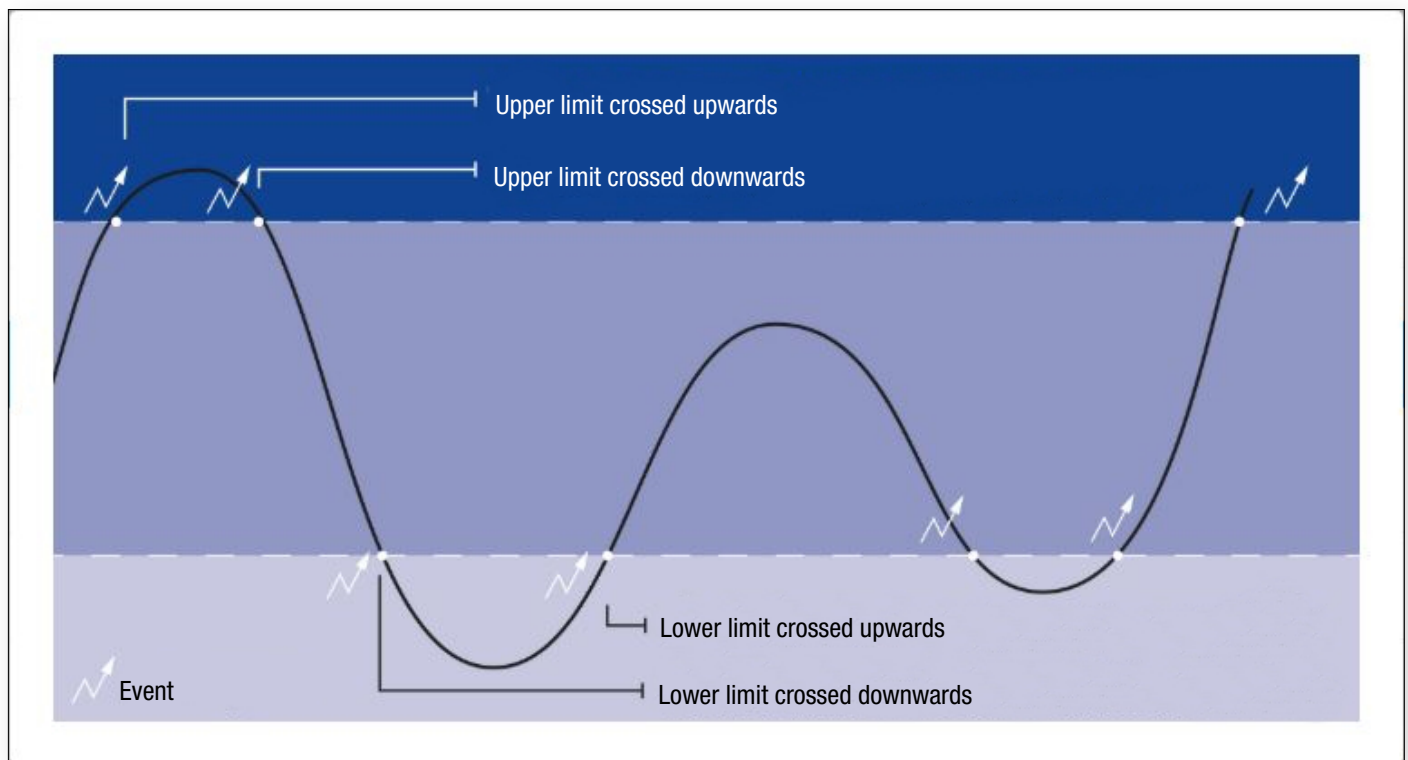

Figure 70
- 10 A graphical view of the limit definition can be viewed via the question mark. To close the window, click on the graphic again (see Figure 70).